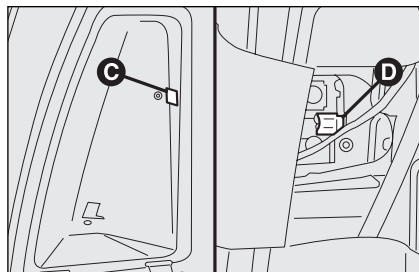

fig. 37
- hold the tongue **C**-fig. 37 and open the door for the rear light unit access;